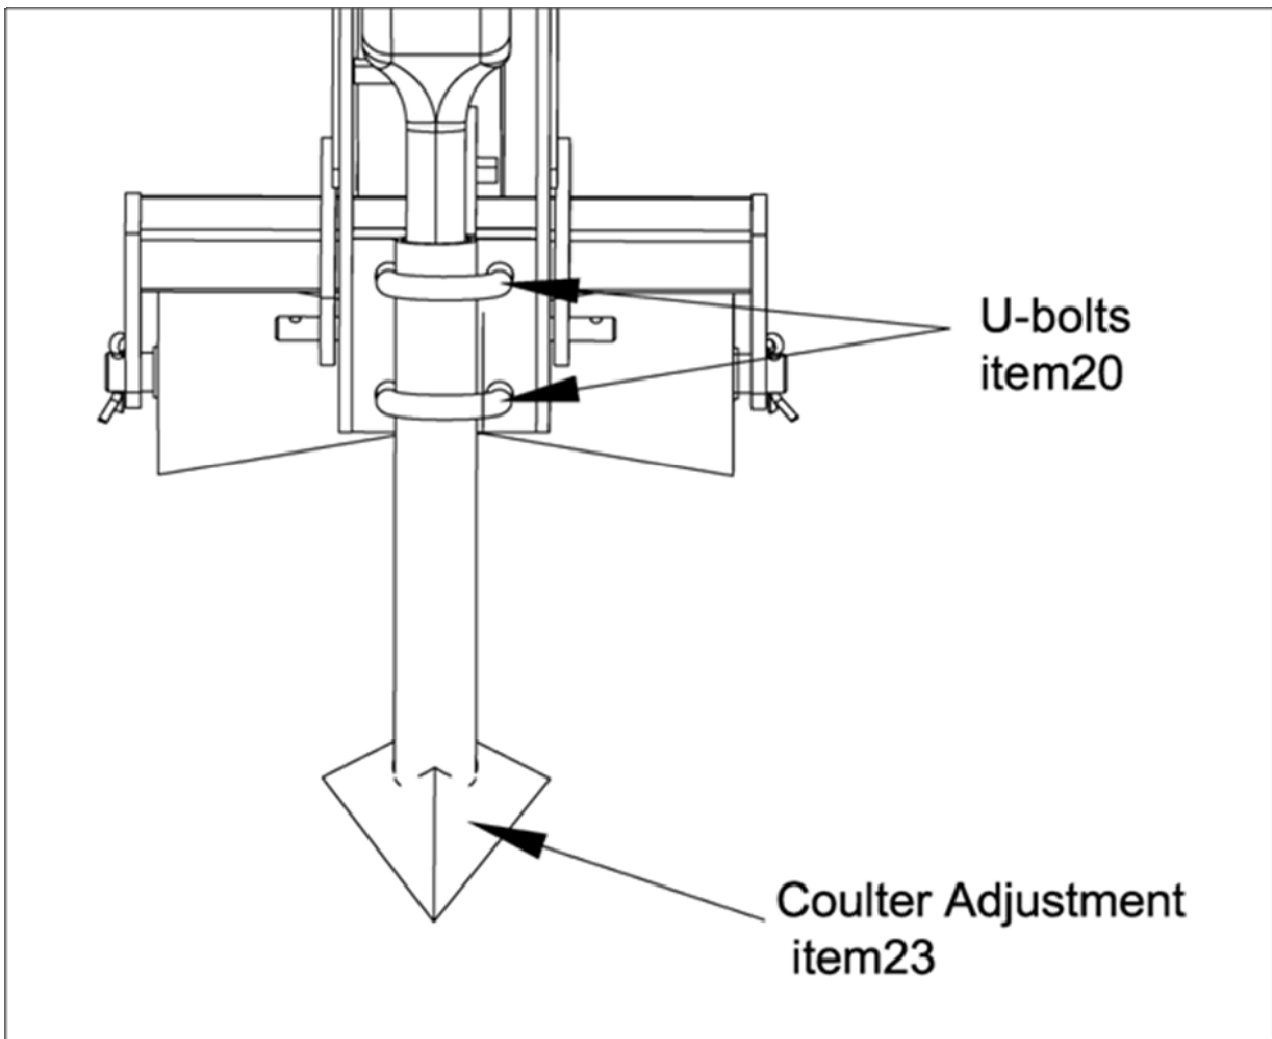

Figure 13
5. If the depth of planter cannot be achieved because the wheel brackets, item 66, contact item 90 hex bolt mount, the coulters assembly will have to be moved down.
6. To move coulters assembly down raise planter off of flat surface, loosen the u-Bolts item 20 and lower coulters assembly down. Retighten U-bolts. See figure 13. Repeat steps 1 through 4 again.